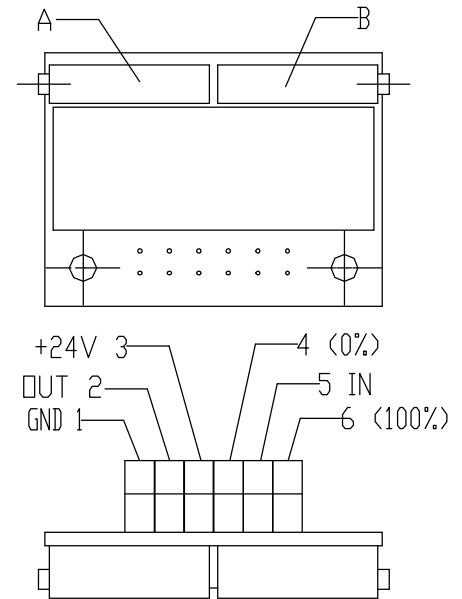

Fig.6
3.3.2 EPV – 3-wire version (Fig. 6)
- Adjust the resistive transmitter according to the previous chapter. The resistance is to be metered on the terminals 0%-100% (Fig. 6). The used transmitter resistance is 2000W or 100 W.
- Turn the adjusting trimmer A (Fig. 6) to adjust the output current signal rate measured on the terminals 81-82 to 0 mA or 4 mA.
- Turn the adjusting trimmer B (Fig. 6) to adjust the output current signal rate measured on the terminals 81-82 to 20 mA or 5 mA.